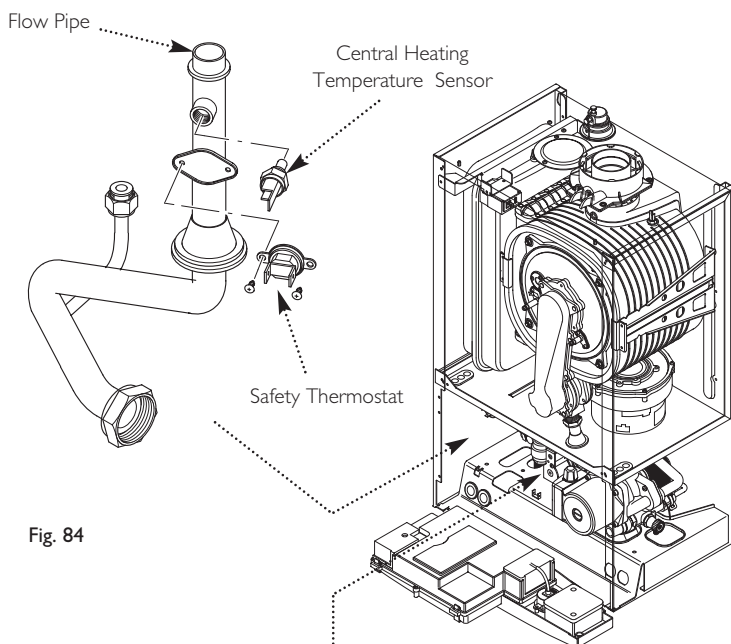

Fig. 84
Important: When fitting the new venturi, ensure the arrows on its base point into the collector (Fig. 84).
14.10 Central Heating Temperature Sensor (NTC) (Fig. 84)